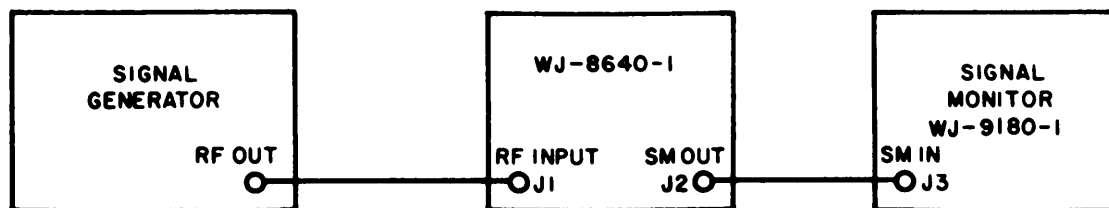

Figure 4-1. Test Setup, IF Rejection Circuit
(1) Connect the Receivers shown in Figure 4-1.